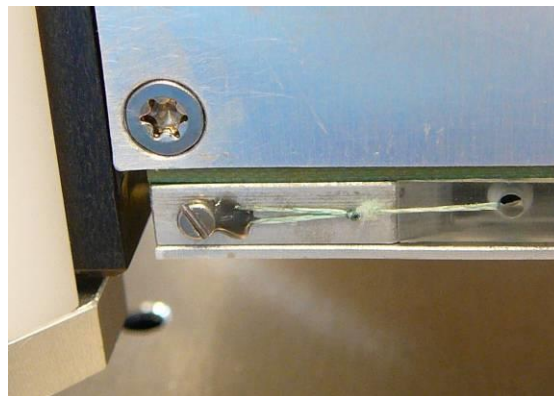

Figure 5-6 Final External epoxy on burn wire
9. Fasten the screws (M1.4) with 0.07 Nm torque (and apply Epoxy (Only for final flight preparation - Refer to Figure 5-6)).